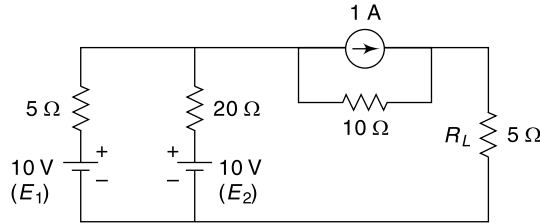

Fig. 4.83 Circuit of Ex. 4.57
4.57 Find the current through resistance (R_L) for the network shown in Fig. 4.83 using the Superposition theorem